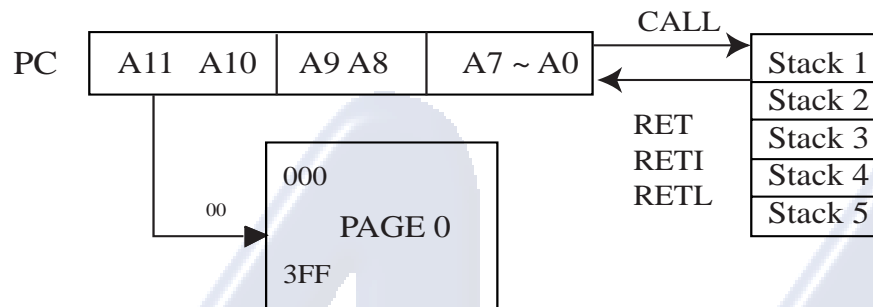

Fig. 3 Program counter organization
- R2 and hardware stacks are 10~12-bit wide. The structure is depicted in Fig. 3.